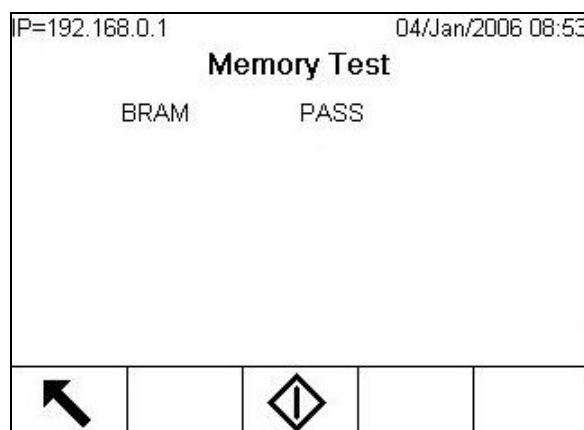

Figure 3-16: Memory Test Screen
- Memory Test (Figure 3-16)—To test the BRAM, press the START  softkey. When testing is complete, press the EXIT softkey  to return to the menu tree.